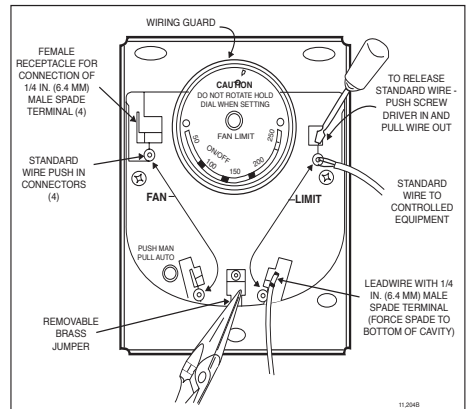

Fig. 8 - Location of wiring connections.
The brass jumper is the breakaway type. It must be removed when the limit is used in the low voltage circuit. To remove jumper, break with a needlenose pliers and remove completely. Once removed, it is not replaceable. See Fig. 8 for location.
When connecting cable or conduit to this controller, use care to avoid strain on the control case. Connections can be made to standard wire push-in terminals or female receptacles for 1/4 in. (6.4 mm) male flag connectors on both the fan and limit switches (Fig. 8).
3. Solid wire may be inserted directly into the terminal holes. If stranded wire is used, insert a small screwdriver into the slot next to the terminal. Push screwdriver in and hold while inserting wire into terminal (Fig. 8). Remove screwdriver. If stranded wire is solder-dipped, it can be pushed directly into terminal holes.
3. Push male flag connector directly into the female receptacle. Make sure that the flag is forced to the bottom of cavity and wire is in the channel (Fig. 8).